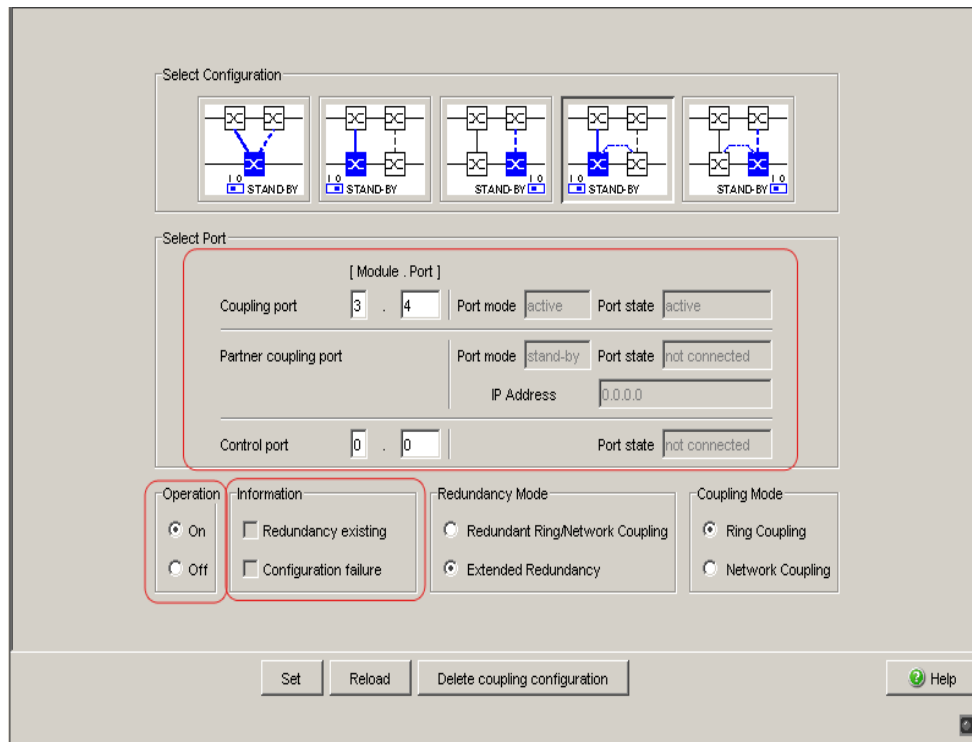

Figure 38: Selecting the port and enabling/disabling operation
☐ Select the coupling port (see fig. 38), (see table 11).
☐ Select the control port (see fig. 38), (see table 11).
- The displays in the “Select port” frame mean (see fig. 38):
The displays in the “Information” frame mean (see fig. 38):
- ☐ Select the coupling port (see fig. 38), (see table 11).
- ☐ Select the control port (see fig. 38), (see table 11).
The displays in the “Select port” frame mean (see fig. 38):